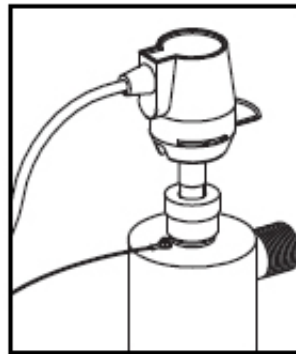

FIGURE 4
5. Attach the ballast/connector onto the UV lamp. The connector is “keyed” and will only allow correct installation in one position. Ensure the connector is fully seated onto the UV lamp (Figure 4).